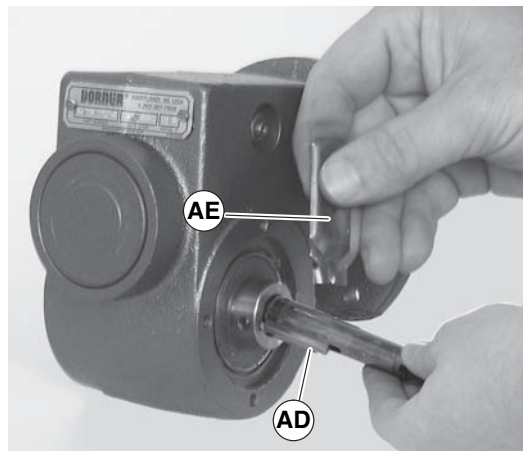

Figure 39
- Apply grease (Figure 39, item AE) to shaft.